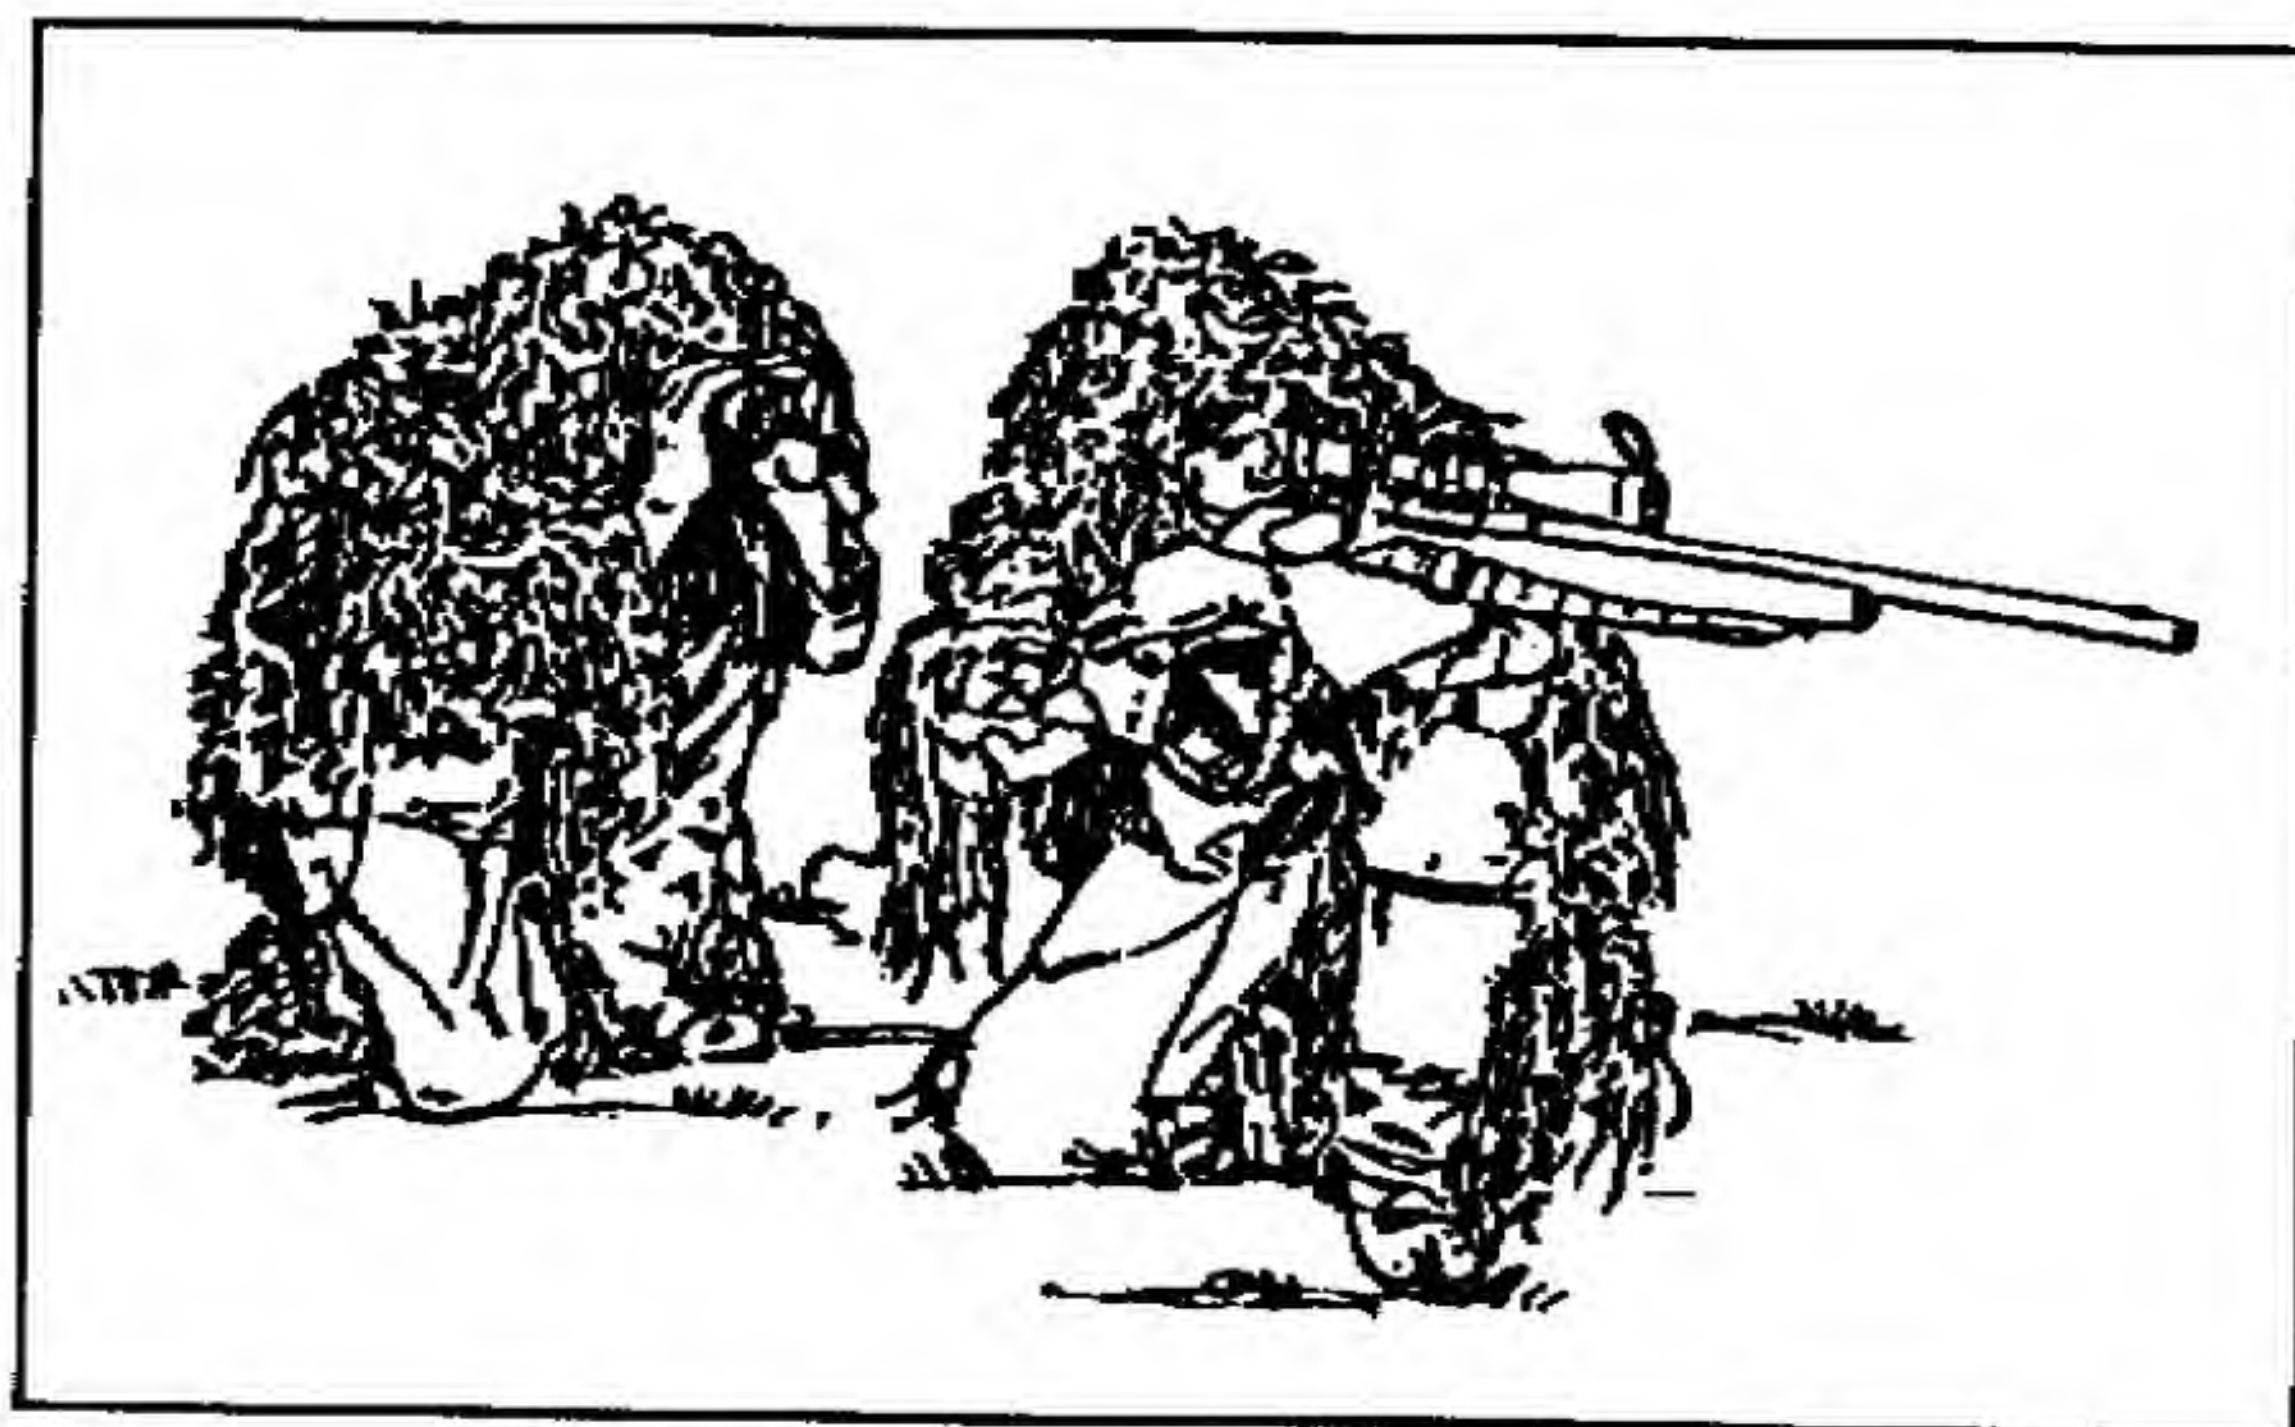

Figure 3-13. Sniper team positioning.
(1) The closer the observer gets his spotting telescope to the sniper's line of bore, the easier it is to follow the trace (path) of the bullet and observe the point of impact. A position at 4 to 5 o'clock (7 to 8 o'clock for left-handed firers) from the firing shoulder and close to (but not touching) the sniper is best (Figure 3-13).